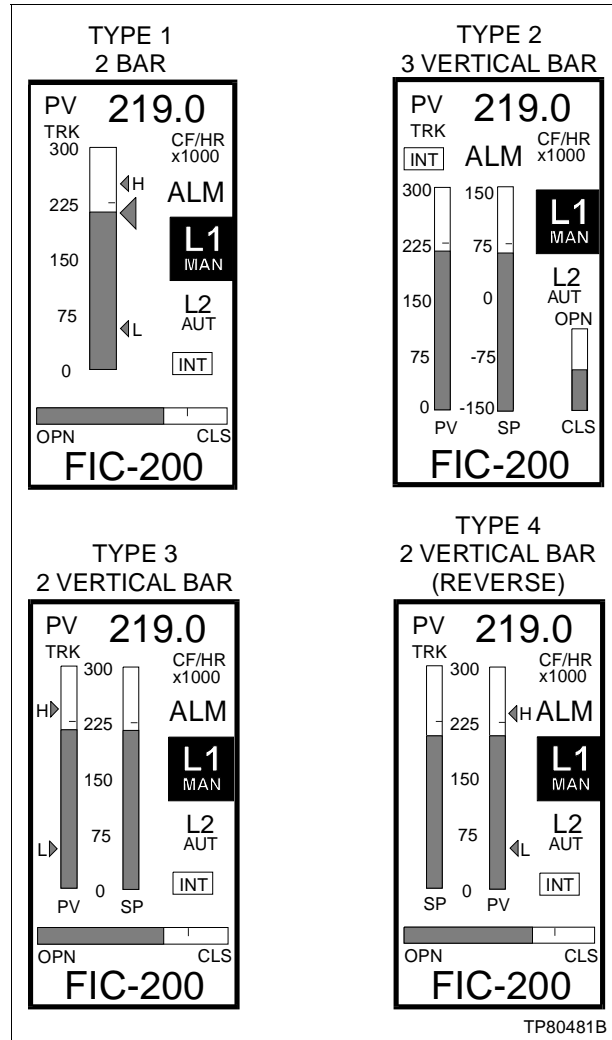

Figure 3-2. Process Display Selections
7. The select *Process Display Type* screen will appear. This option allows selecting the type of process display. There are four selections as shown (Fig. 3-2). Press **[s]** or **[t]** to scroll the types. If the soft key below *VIEW* is pressed, a view of that type process display screen will appear. Once the selection has been made, press **[SEL]** to return to the setup menu.